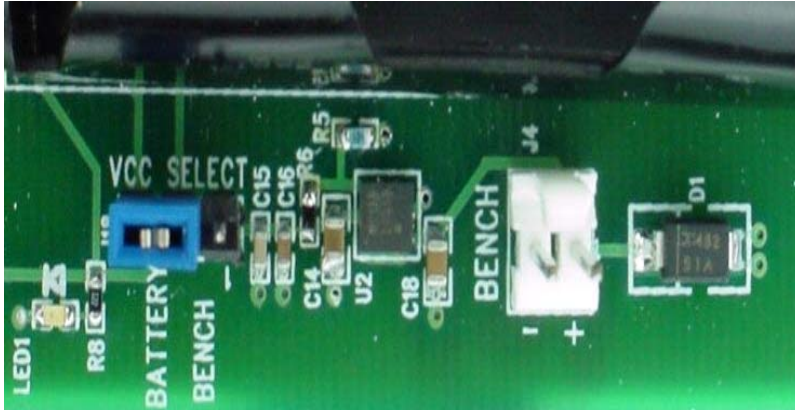

Figure 4: Jumper Set for Battery Supply
Insert batteries into interface boards and verify that battery supply is selected using the jumper as shown in Figure 4 chapter 3.
- To use battery supply place the jumper as shown in Figure 4 below and insert 2 AA batteries in power pack onboard the interface board.